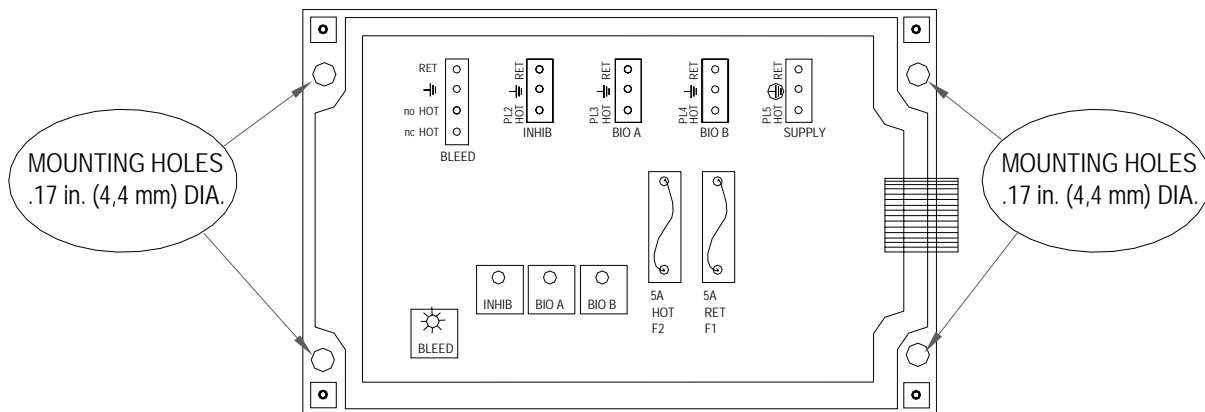

Fig. 3
Mount the bottom half of the controller using the four (4) holes provided (Fig. 3).